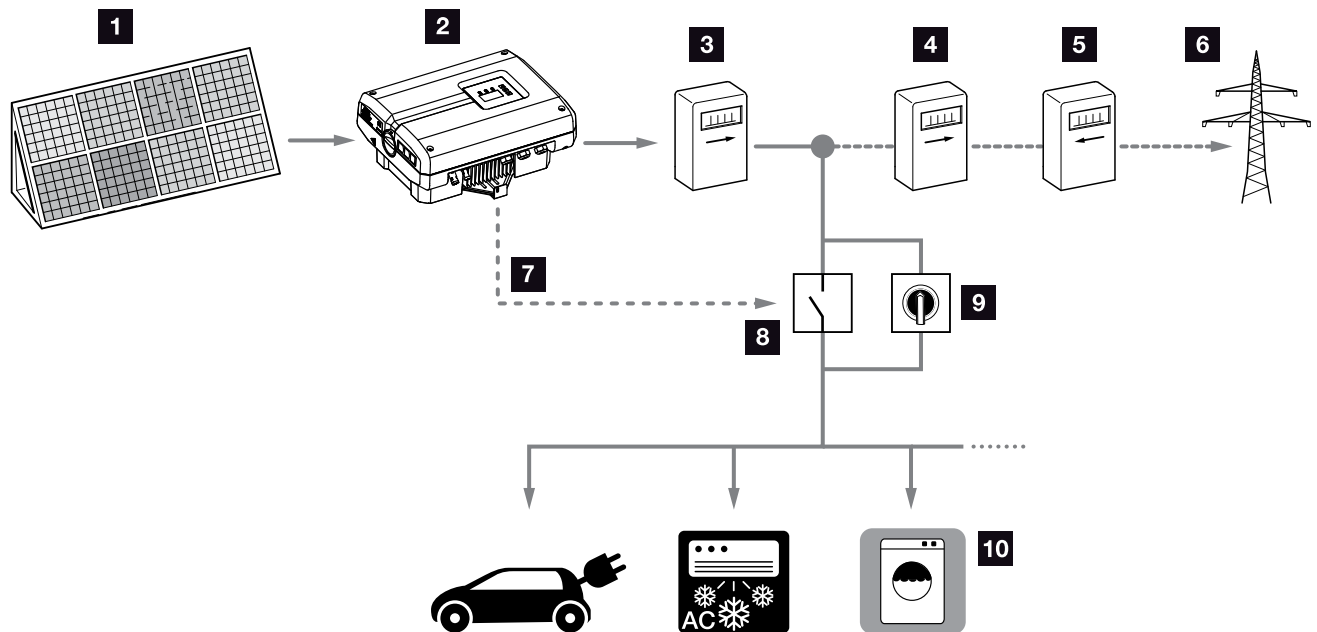

Fig. 60: Configuration of self-consumption
3. Properly install and connect the additional components for self-consumption. **Fig. 60**